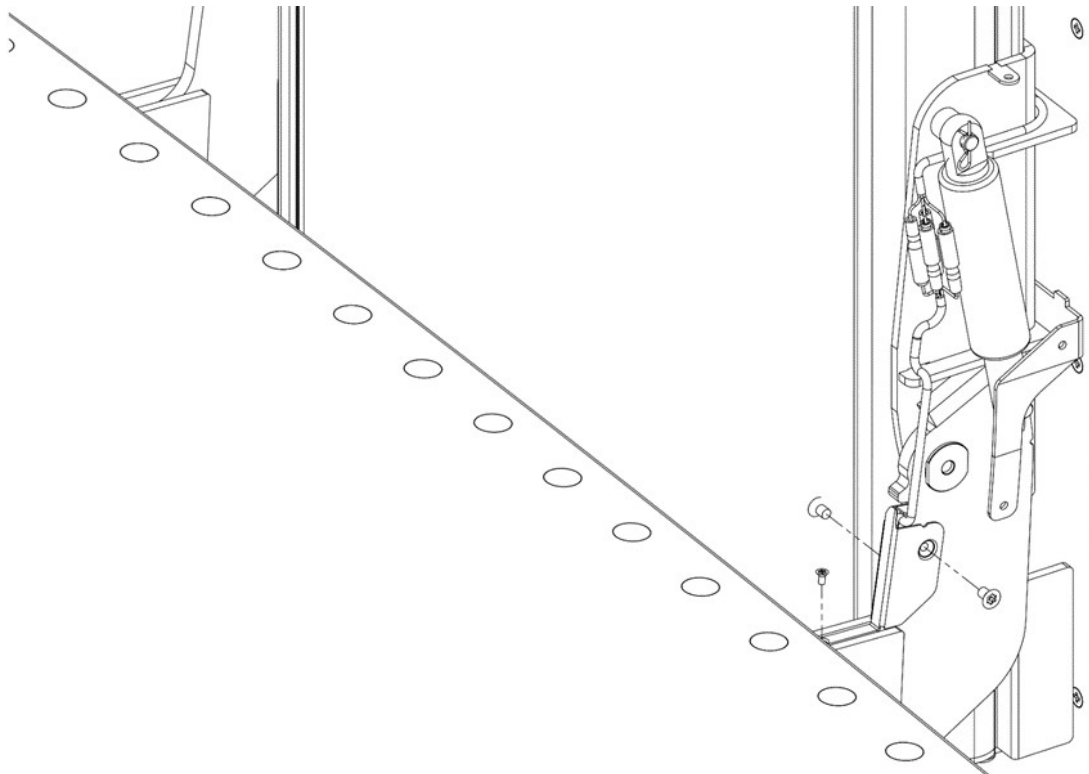

Fig 12.10
- Using the tools and security fasteners provided, install the cable cover. The two horizontal screws are M5 x 8 mm and one vertical is M3 x 6 mm as shown in Fig 12.10.